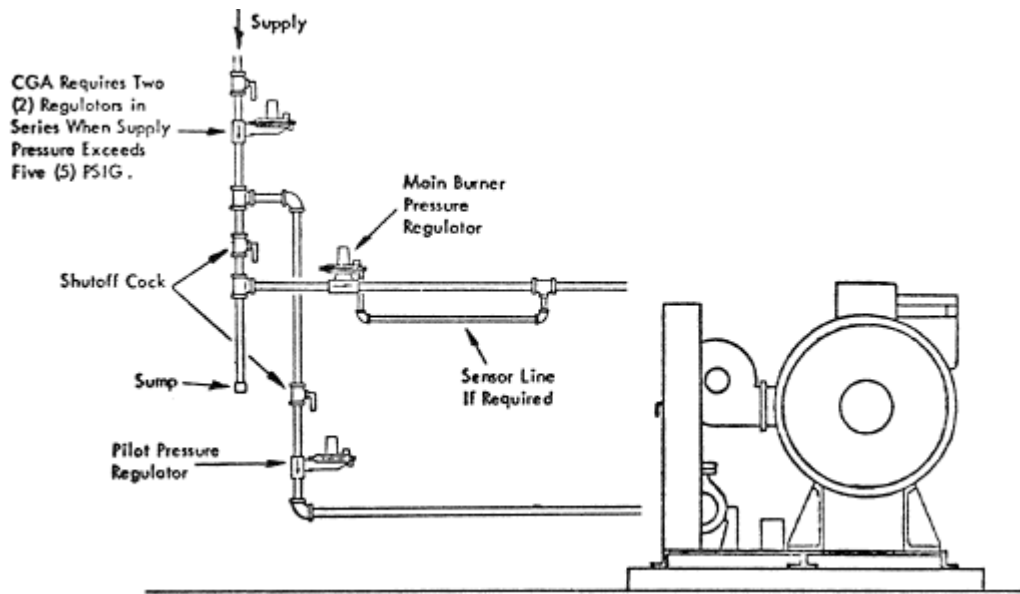

Figure 9, Gas Regulator Installation
8.2.6 The selected gas regulator(s) may be installed anywhere between the meter and the heater, but must be located upstream of gas line safety equipment. Wherever the regulator is located, it must be capable of supplying the required pressure at the heater connection. Figures 9, 10, 11, and 15 illustrate a gas pressure regulator installation.
9.4 The pilot gas regulator may be installed anywhere between the meter and the main gas regulator and must be capable of supplying the required pressure at the heater connection. Figures 9 and 15 illustrate a gas pressure regulator installation.